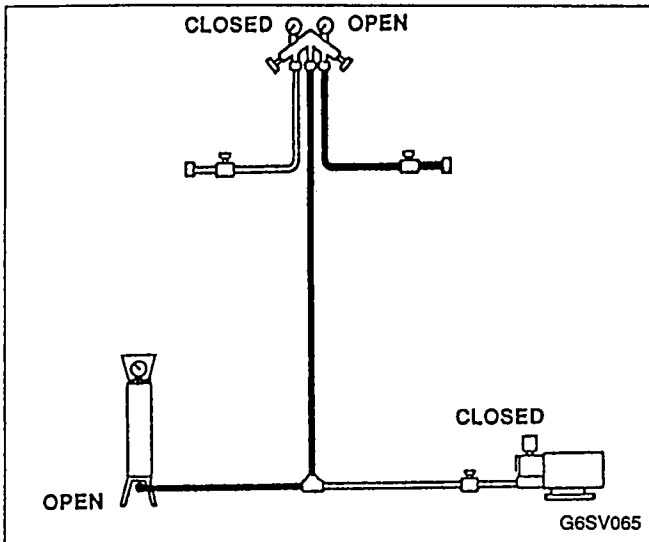

FIGURE 67. RECHARGING OF SELF-CONTAINED SYSTEMS
1. Ensure toggle switch is in OFF position. Refer to Figure 67 and recharge system.